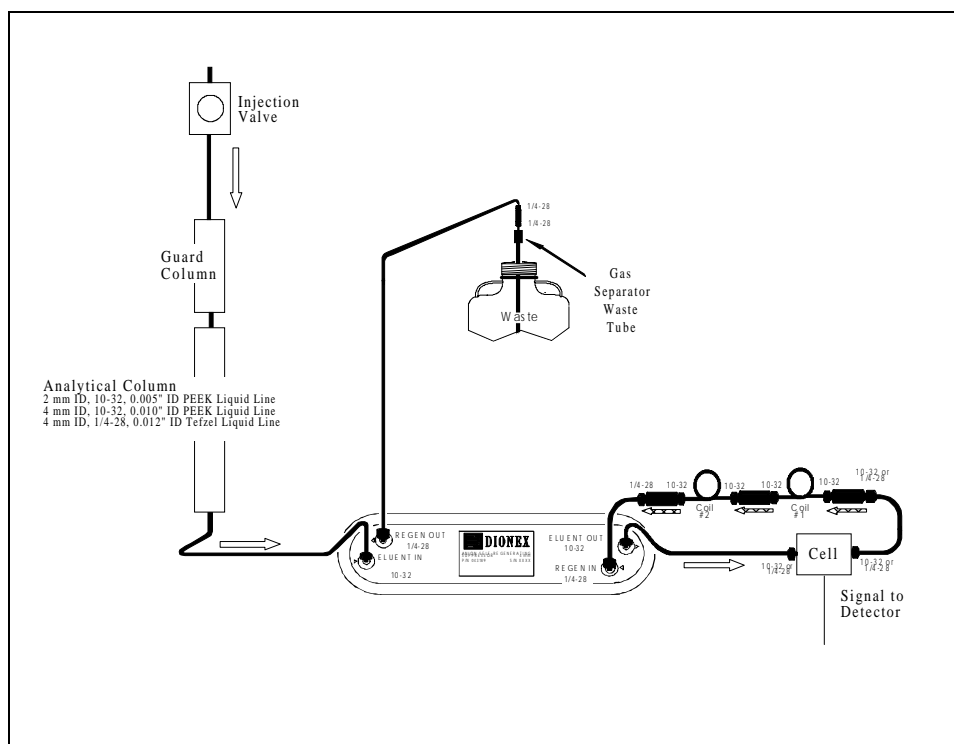

Figure B-3. AutoSuppression Recycle Mode
- AutoSuppression™ Recycle mode (SRS required), shown in Figure B-3